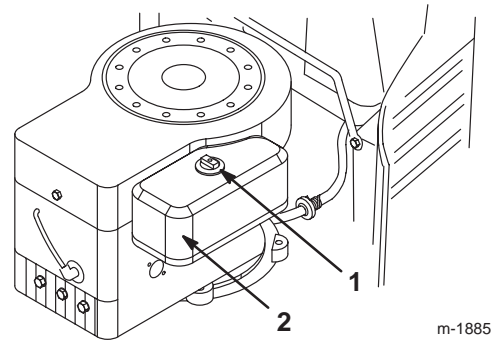

Figure 20
8. Unscrew the knob and remove the air cleaner cover (Fig. 20).
3. Install the air cleaner cover and knob (Fig. 20) and tighten the knob snugly.